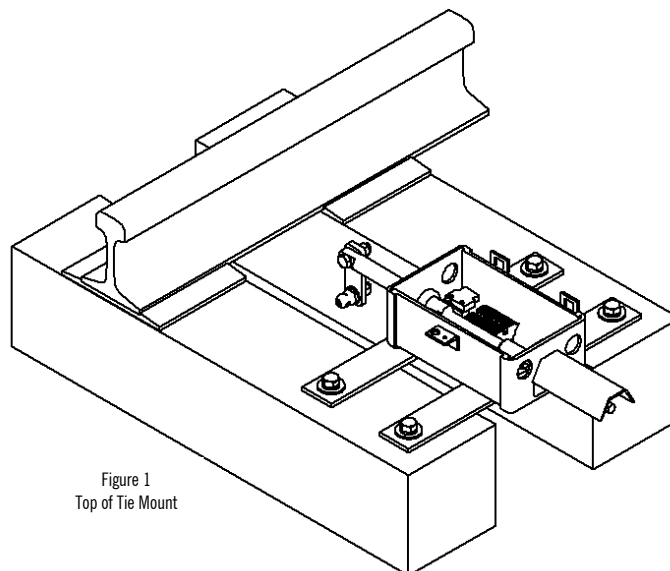

Figure 1
**Answer:** There are three basic methods used to mount the SC-100 to the ties. Unlike traditional circuit controllers that mount on the Head Tie with the connecting rods hanging off the side; the SC-100 is designed to mount between the Head Tie and the forward tie closest to the switch point. **(see figure 1,2,3).**
**1. Tie Mount: (see figure 1)**